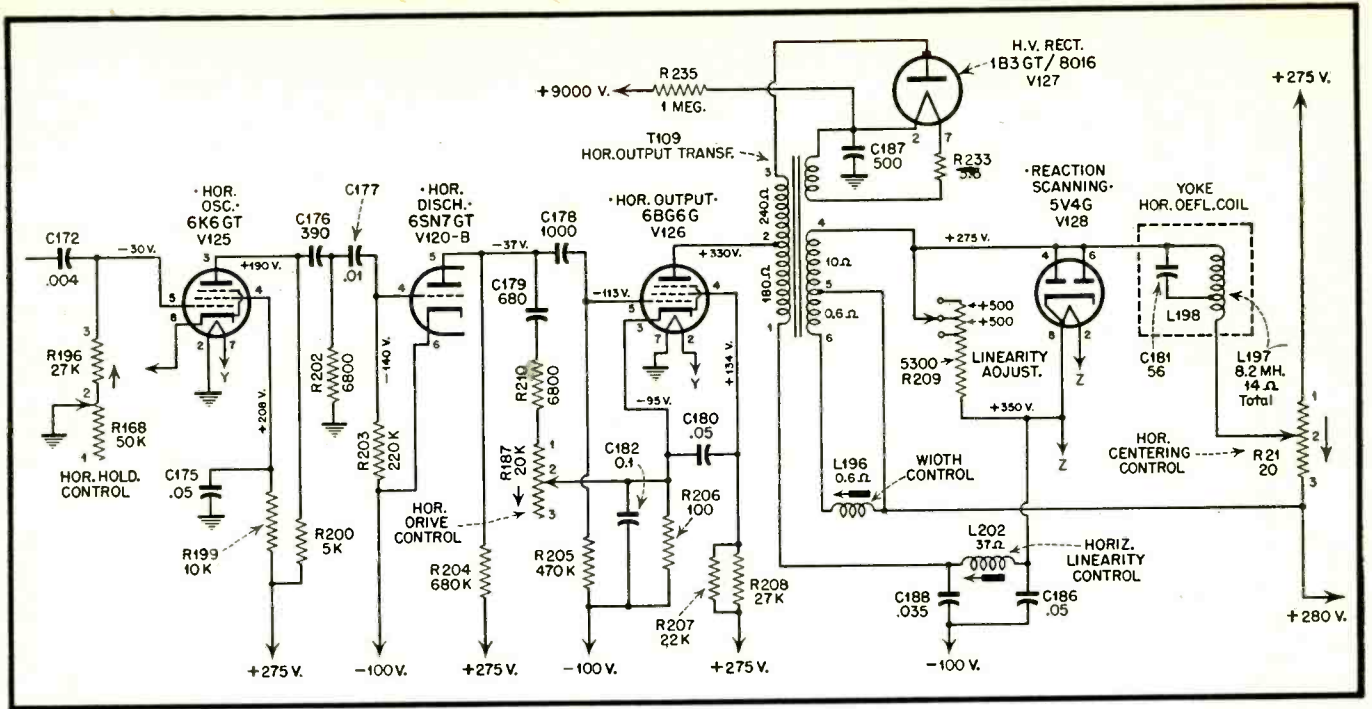

Fig. 1. Partial schematic of horizontal sweep and high voltage RCA 630TS
The schematic of the set was referred to: Fig. 1
4. Voltage readings were taken around the Horizontal Discharge tube circuit, V120-B, 6SN7GT, with a VTVM. The following readings were noted: (and compared to values on schematic—Fig. 1 (B+ = normal)
These readings can be checked against schematic—Fig. 1.
In normal operation, when brilliance is turned all the way up, picture blooms (expands) as it brightens. This is due to more current through the CRT because of reduced bias; more current through the large filter resistor, (R-235, Fig. 1) 1 megohm, in the high voltage system reduces the high voltage; sweep currents through the deflection coils therefore have more effect on the slower moving beam; and since deflection sensitivity is increased, the picture is larger. In this case, increasing the brightness control beyond the one critical point produced more current through the CRT and evidently reduced the already low high voltage to the point where there was no visibility.